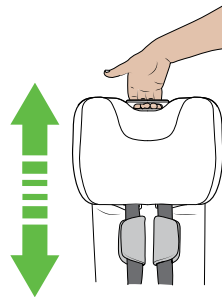

Figure 21
Step 1. Re-adjust headrest and harness height until correct height is reached for your child (Figure 21).